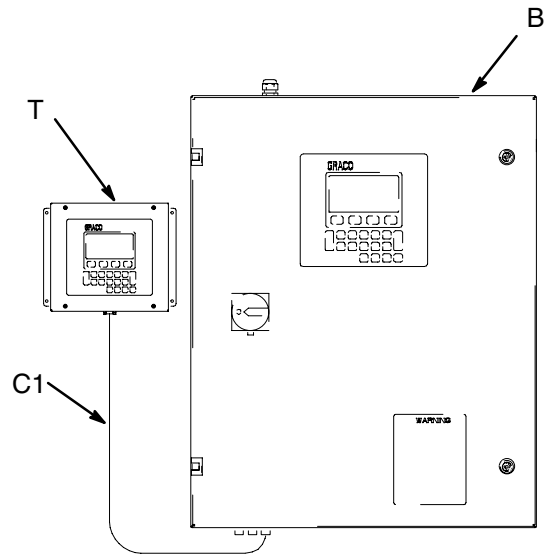

Fig. 3.7
1. If you are using a remote user interface (T), Part No. 194372 standard cable (C1) is provided to connect the remote interface (T) to the controller (B). The 9-pin D-SUB cable is 50 ft. (15.2 m) long. See Fig. 3.7.